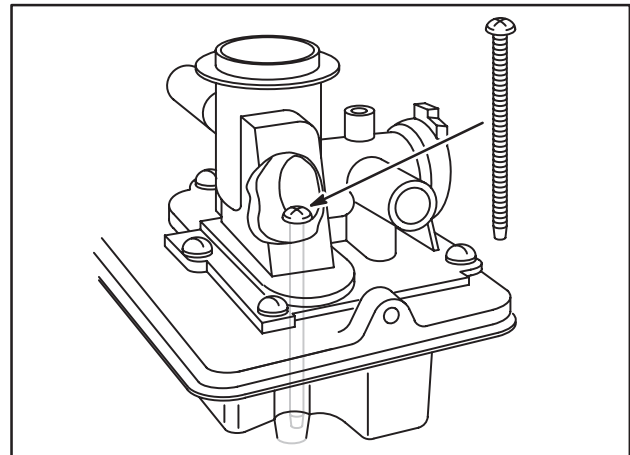

Fig. 224 – SCREW UNDER CHOKE PLATE
**NOTE:** On Model Series 110900, 111900, 113900, and 114900 a mounting screw may be located under choke plate. To gain access to screw, open choke plate completely. Use a #2 Phillips head screwdriver to remove screw, Fig. 224.